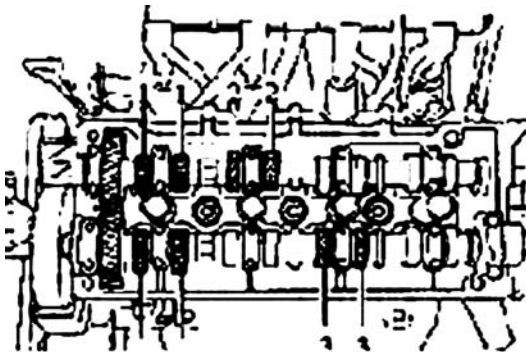

Figure 9
- (a) Turn crankshaft pulley, align notch to timing mark "0" on Cylinder 1. See (Figure 9).